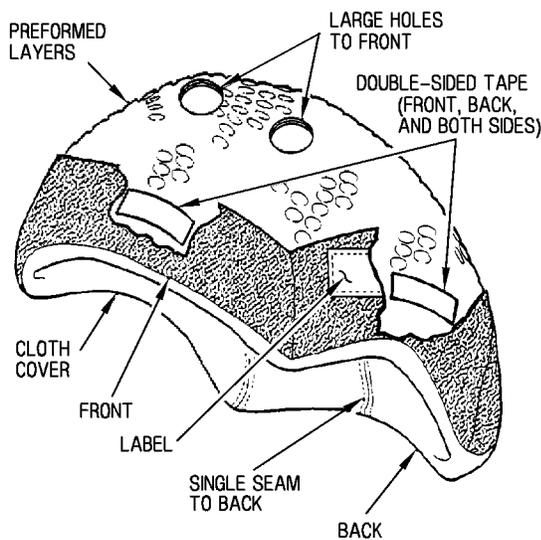
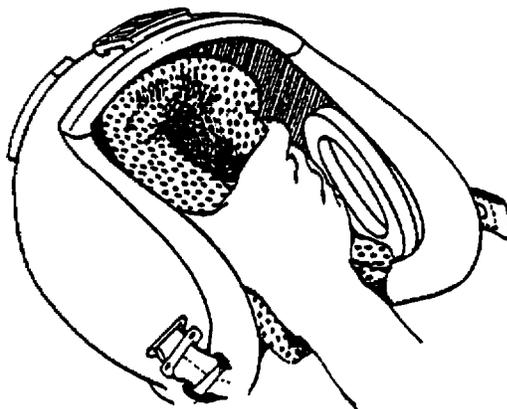

Figure 5. Preventing Bunching of TPL
Figure 6. Putting TPL in Helmet Shell
(1) Install two tabs on the inside front of the energy absorbing liner left and right of center over the eyes, 1/8 inch from front edge of the liner.
(2) Install two tabs in the rear approximately 1 1/2 inches left and right of center and 1/2 inch from the bottom edge of the liner.
b. To prevent bunching of TPL cover fabric, secure the TPL cover to the preformed layer assembly using four 1 x 2 inch pieces of double-sided tape per substeps below. Refer to figure 5, this WP.
(1) Position the cloth cover over the preformed layer assembly. The single seam is positioned to the rear.
(2) Position tape strips with the 2-inch length horizontal at the front, rear and both sides of the preformed layer assembly under the cover fabric overlap.
(3) Press cover in position over the tape strips.
c. Put the TPL inside the helmet shell by squeezing the TPL sides together to clear the ear-cups. Make sure large holes on top of the TPL are facing forward. Release TPL and attach liner cover to hook fastener tabs. Refer to figure 6